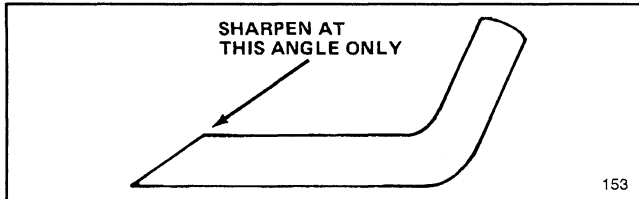

Figure 13
7. SHARPENING BLADE—Using a file, sharpen top side of blade (side facing mower housing) and maintain original cutting angle (Fig. 13). The blade will remain balanced if the same amount of material is removed from both cutting edges.